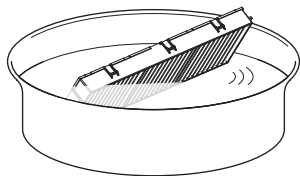

Fig. 1
2) Remove the air filter cover. (Fig. 1)
1) Wash the air filter unit. (Fig. 1)